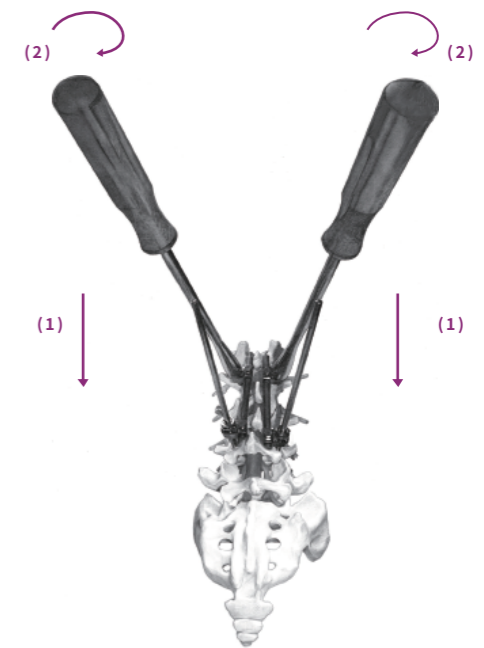

Fig. 4a
- First, two 11mm socket wrenches are inserted into the SCHANZ Pedicle Screw I at the tail end and tilted towards the tip to create lordosis in the spine, and then the 11mm nut of the sleeve chuck is locked. The same operation is done on the SCHANZ Pedicle Screw I at the head end, and the normal sagittal plane of the vertebral body can be reconstructed in these two steps. (Fig. 4a).